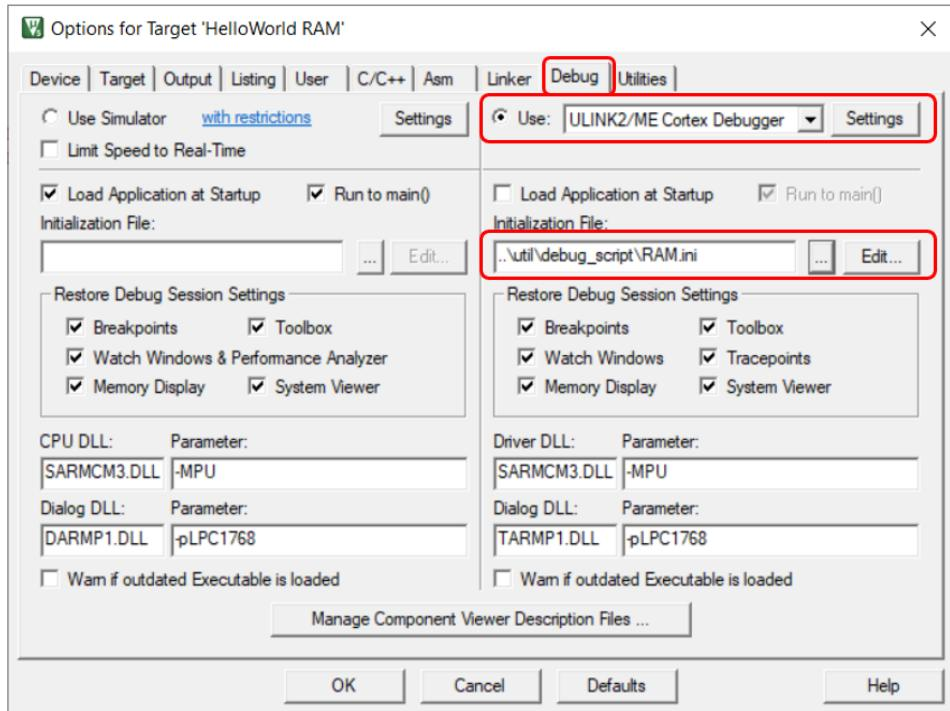
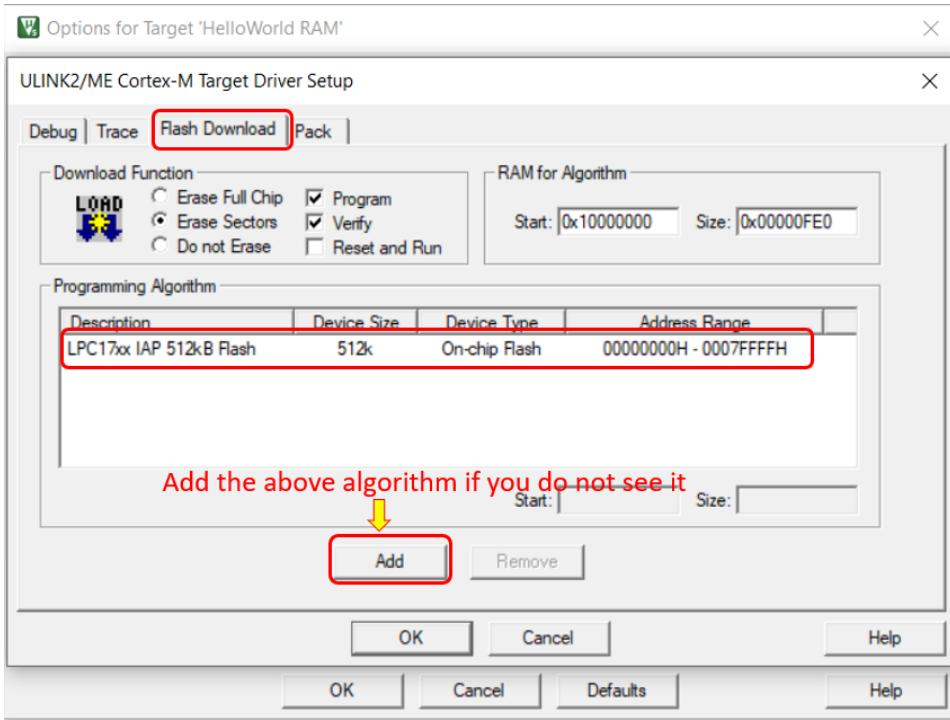

Figure 8.27: Keil IDE: Configure ULINK-ME Hardware Debugger.
Figure 8.28: Keil IDE: Flash Download Programming Algorithm Configuration.
4. Select the ULINK2/ME Cortex Debugger in the target options Debug tab and use an debug script RAM.ini provided in the starter code (See Figure 8.27) as
5. Press the settings button beside the ULINK2/ME Cortex Debugger (see Figure 8.27) and select the Flash Download tab (see Figure 8.28). You should add the LPC17xx IAP 512kB Flash algorithm to the Programming Algorithm field if it is not already there.